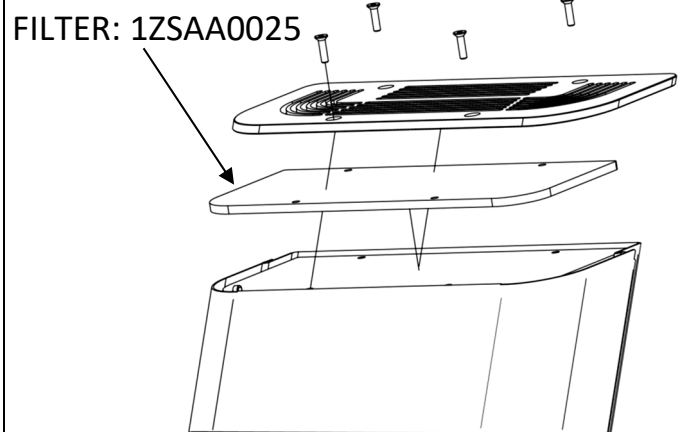

Fig. 7
- 1-Get an Allen wrench 2.5. With the machine in an upright position, unscrew the screws and remove the cover. (Fig. 7)